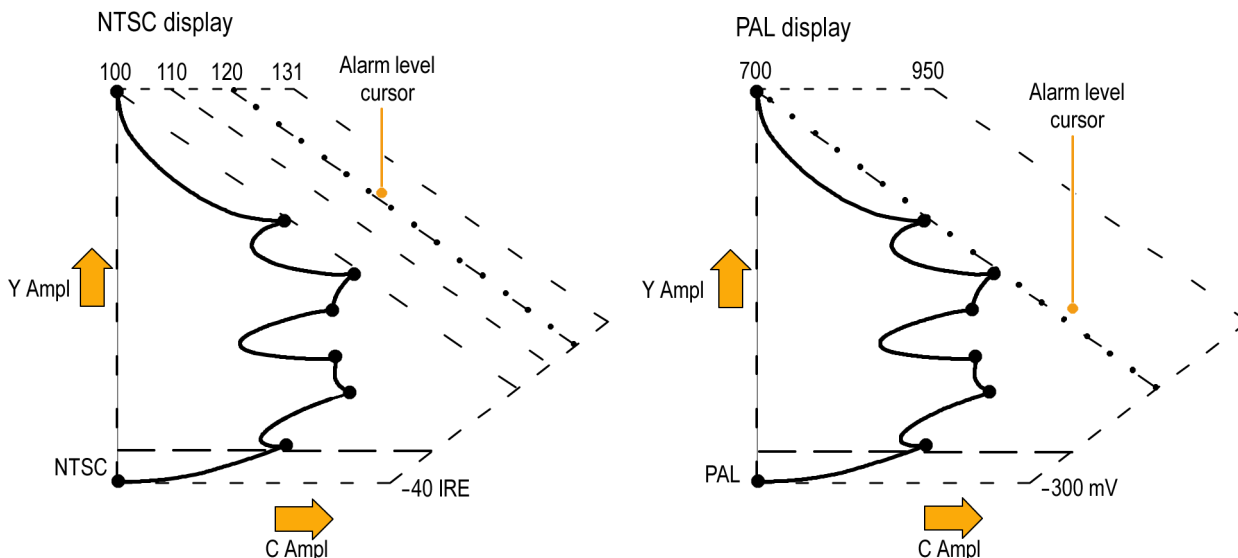

Figure 51: Arrowhead gamut display plots
The Arrowhead gamut display plots luminance (Y) against chrominance (C) to check if the composite signal adheres to standard gamut. NTSC and PAL Arrowhead displays (75% Color bars) and indicates the values of the graticule lines. The arrowhead shape of the graticule results from overlaying the standard limits for luminance and luminance-plus-peak chrominance. (See Figure 51.)